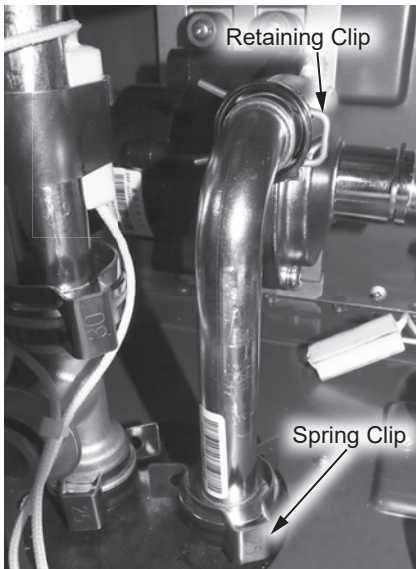

Figure 168 - Pump outlet tube location
- Locate the pump outlet tube. Remove the retaining clip securing tube to water pump. Locate and remove the spring clip (size 25) at the bottom of the pump outlet tube and disconnect tube from water connection and water pump. See Figure 168.